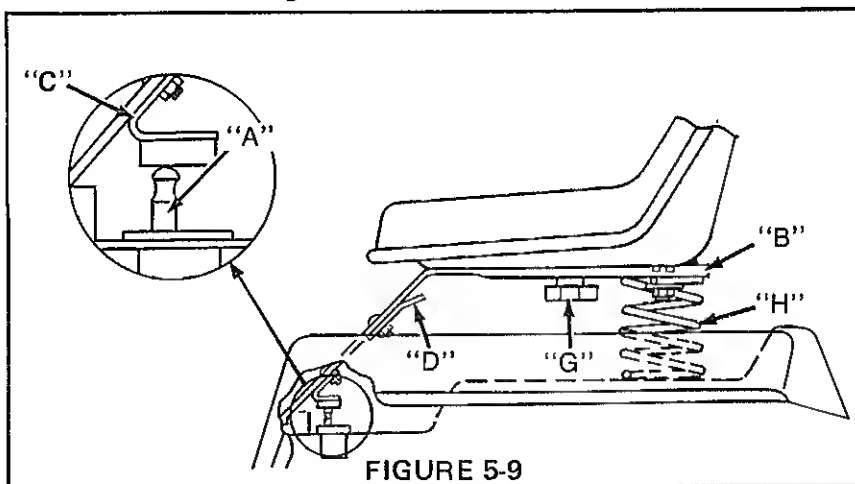

FIGURE 5-9
To adjust seat, loosen knobs (G) Figure 5-9 beneath seat and slide seat forward or back. For different spring suspension, twist spring (H) to loosen. Slide spring to the front for light operators or back for heavy operators. Twist spring to tighten.
(ALL MODELS EXCEPT 1458-01) (Figure 5-9)
2. The second switch is below the seat, (A), Figure 5-9. This switch should be activated when back edge of seat support (B) is depressed 5/8" (16 mm). If not, loosen bracket (C) and move to correct location. The switch can also be activated by raising the seat and lifting the interlock button UP.